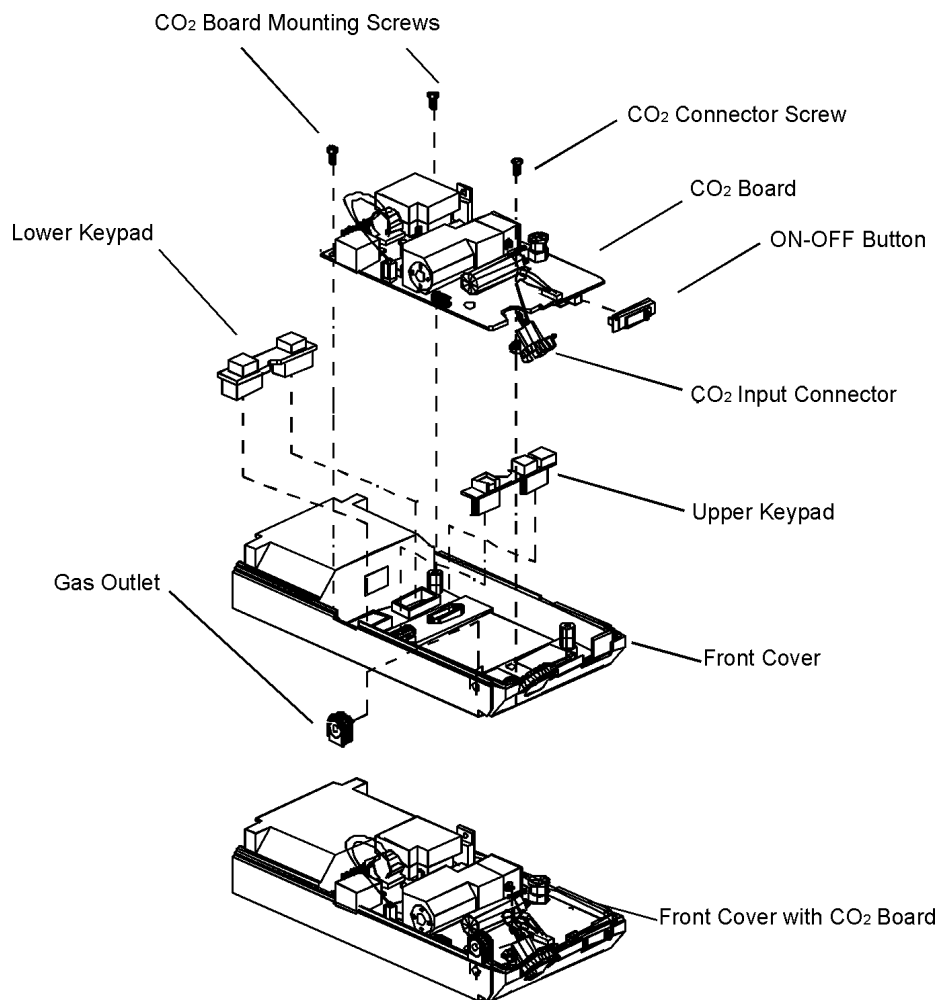

Figure 7-4: Replacing CO₂ board and Housing Components
Refer to Figure 7-4: Replacing CO₂ board and Housing Components
1. Remove the CO2 board as described in Figure 7-4: Replacing CO2 board and Housing Components.